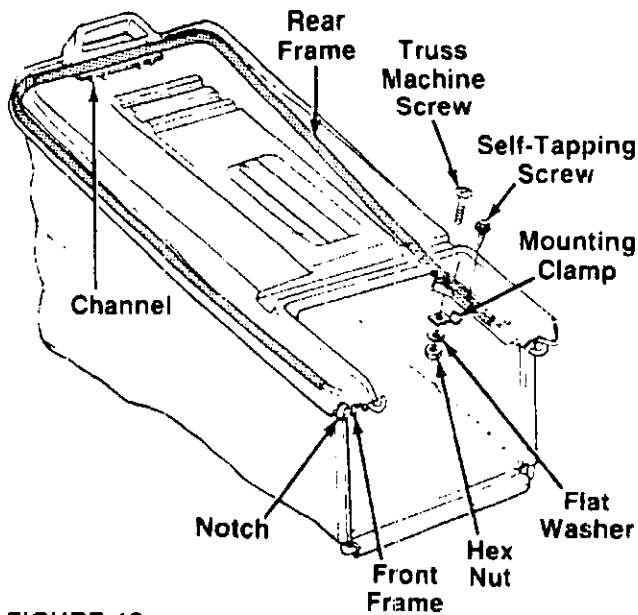

FIGURE 18.
4. Attach the hardtop cover to the grass catcher as follows. See figure 18.
- d. Attach cover to frame using self-tapping screws as shown in figure 18.